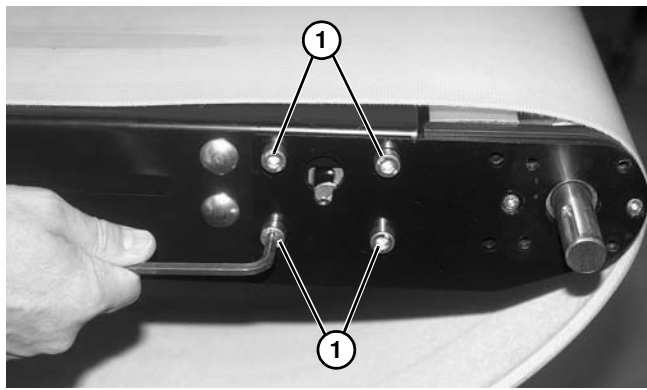

Figure 115
2. Loosen four screws (**Figure 115, item 1**) on both sides of conveyor.